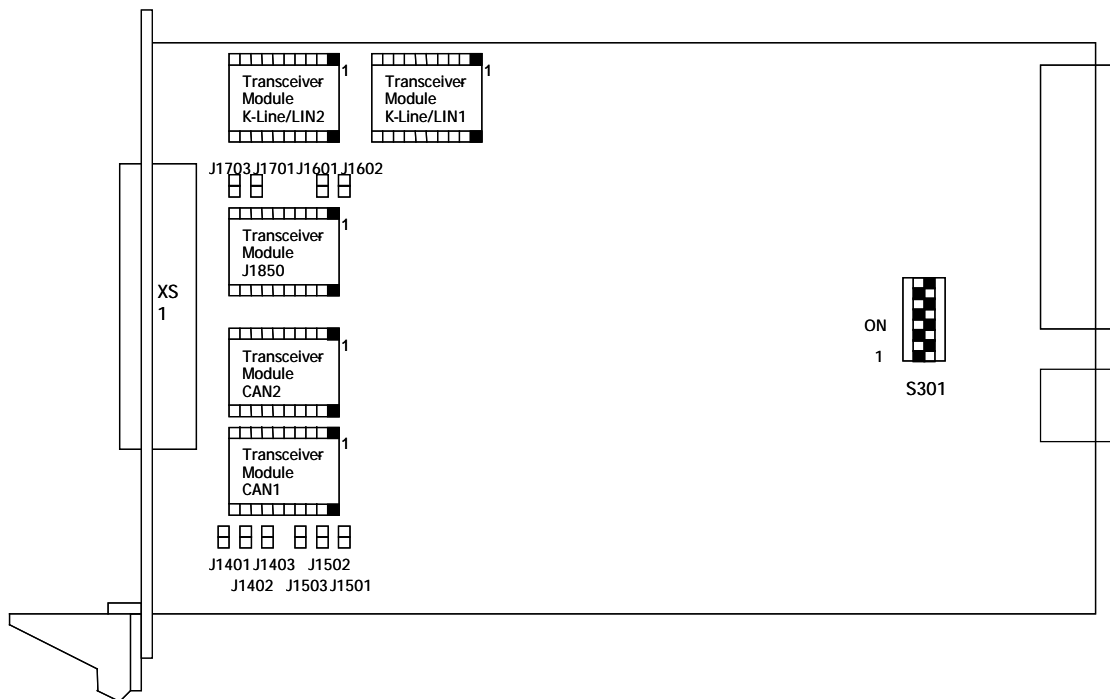

Figure 2-6: Component side of the board for a basicCAR 3085 (schematically)
On the other hand, the transceiver for a J1850 PWM interface must be inserted at the position for the LIN/ K-Line 2 transceiver (see also Figure 2-6).
**2.3.6 Assembly** Figure 2-6 shows schematically the component side of a board in a basicCAR 3085 device. You can see the positions of the transceiver modules, plug connectors, DIP switches and jumpers.
The configuration elements of Figure 2-6 as well as the indications of the plug connectors for the transceivers are explained in the table: